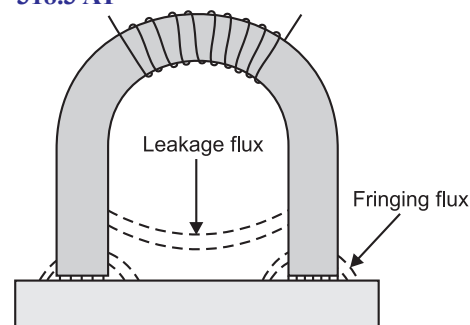

Fig. 9.33
**Example 9.52.** The electromagnet shown in Fig. 9.33 has pole pieces each having a cross-sectional area of  $25 \text{ cm}^2$ . The total flux crossing each pole is  $250 \mu\text{Wb}$ . Determine the maximum weight of iron plate that can be lifted by the magnet. Neglect magnetic leakage and fringing.